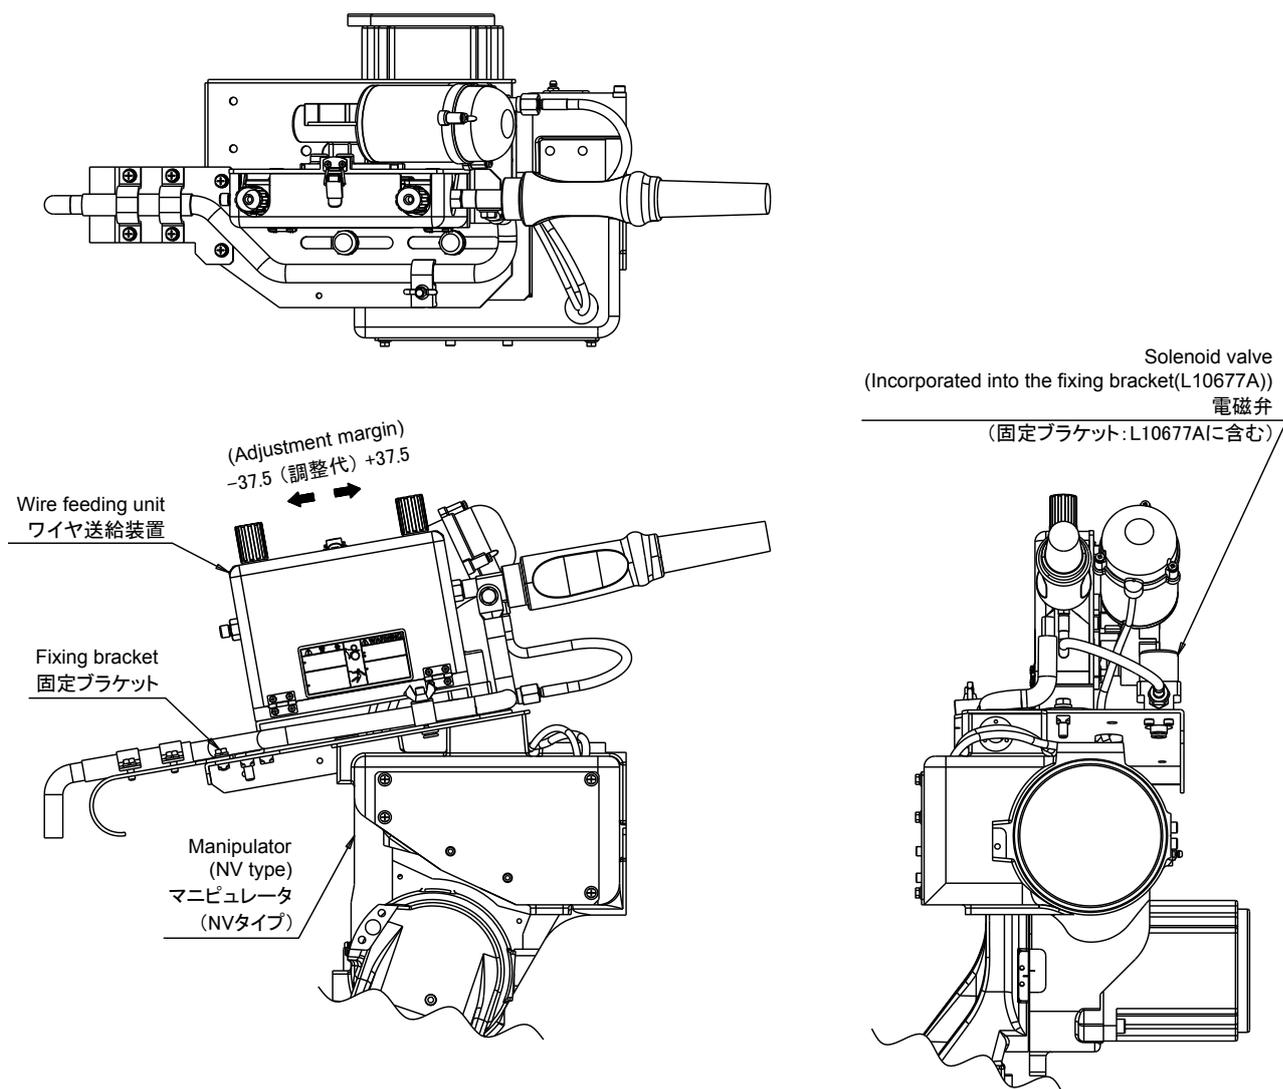

Fig. 2.1 Mounting to AII -V6/FD-V6 series manipulator (Procedure (1))
(1) Referring to Fig. 2.1 and 2.2, mount the fixing bracket to the wire feeding unit.
(2) Referring to Fig. 2.1 and 2.2, mount the fixing bracket onto the shoulder part of manipulator .